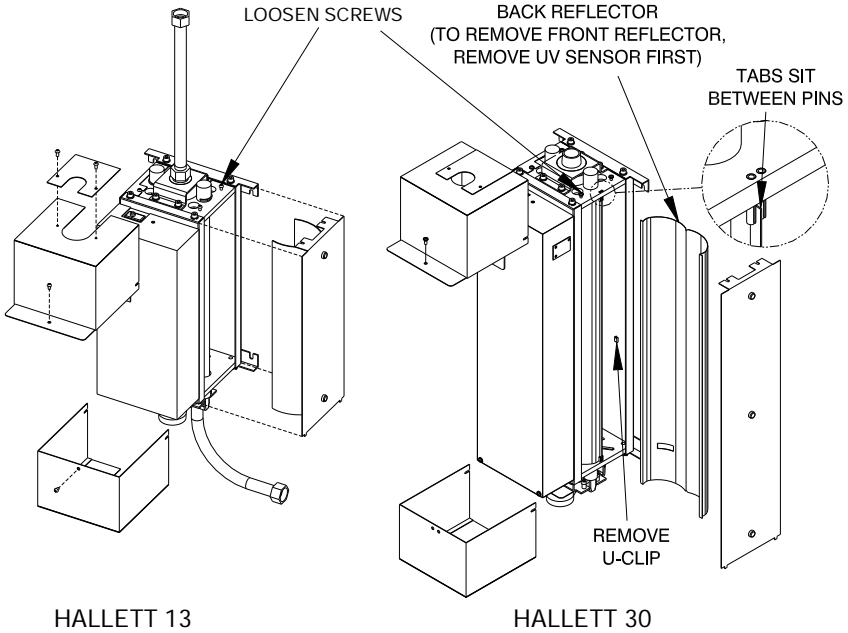

Figure 4A
Step 4: Remove the side cover panels by loosening the two screws on the top fold. On the Hallett 13, the reflector is attached to the cover panel – see Figure 4A. On the Hallett 30, the reflectors are held in place by a U-clip and pins. First remove the U-clip from both sides, then remove the back reflector by gently pushing the tab out from the alignment pins. To remove the front reflector, the UV sensor can be removed. If the left lamp is removed, the front reflector can be manipulated out leaving UV sensor in place.